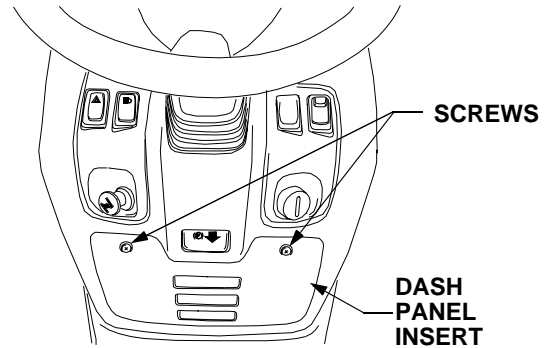

Figure 42
The fuse center is located on the inside *right* of the dash panel. To access the fuse center, remove the dash panel insert by removing the two screws. See Figure 42.
- Remove the dash panel insert by removing the two screws. Refer to Figure 42.